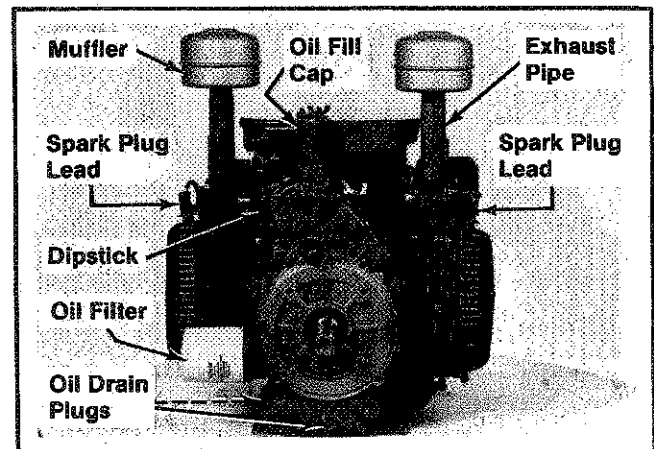

Figure 9-1. Removing Spark Plug Leads, Oil Drain, Oil Filter, And Mufflers.
1. Remove the oil fill cap, dipstick, and oil drain plug. Drain the oil from crankcase. Refer to Figure 9-1.
1. Remove the mufflers and exhaust pipes. Refer to Figure 9-1.